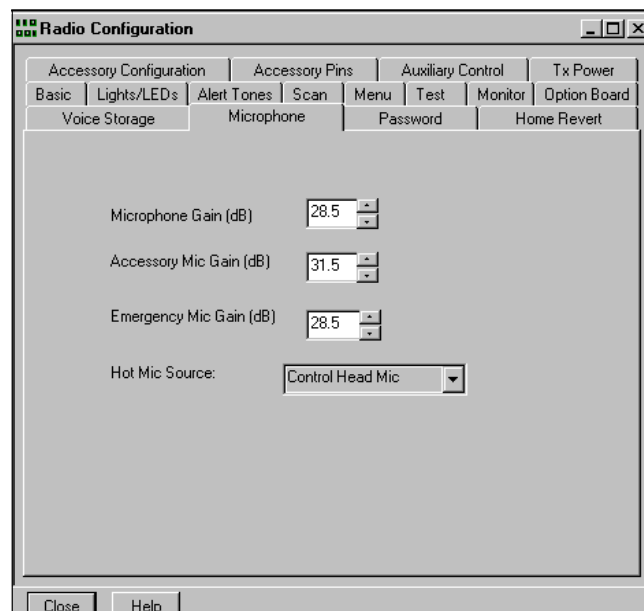

Figure 8-7. Radio Configuration, Microphone, Transmit Radio
- Click the up-arrow button next to the “Accessory Mic Gain (dB)” display. Each click will change the gain by 1.5 dB. For use with the R*I*C*K, increase the gain to 31.5 dB or 33.0 dB. Your screen should appear similar to Figure 8-7.
13. Click the up-arrow button next to the “Accessory Mic Gain (dB)” display. Each click will change the gain by 1.5 dB. For use with the R*I*C*K, increase the gain to 31.5 dB or 33.0 dB. Your screen should appear similar to Figure 8-7 on page 8-3.
13. Click the up-arrow button next to the “Accessory Mic Gain (dB)” display. Each click will change the gain by 1.5 dB. For use with the Basic (R*I*C*K), increase the gain to 31.5 dB or 33.0 dB. Your screen should appear similar to Figure 8-7 on page 8-3.